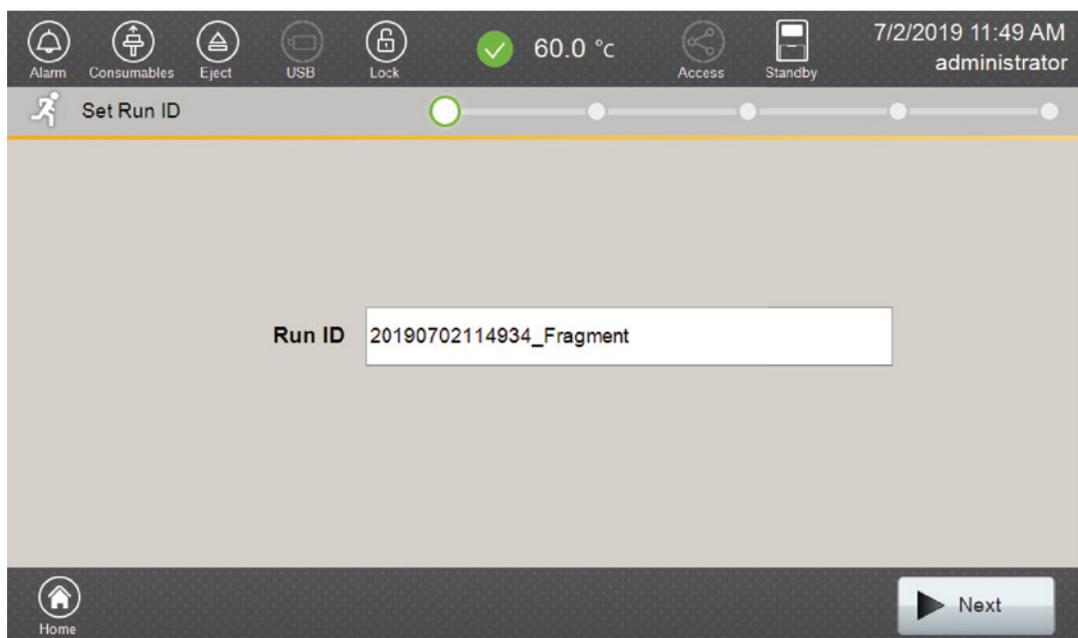

Figure 8. 'Set Run ID' screen.
- Use the default name that includes date, time and “Fragment” or enter a Run ID on the ‘Set Run ID’ screen (Figure 8). Select the **Run ID** box to open the ‘Run ID’ window and a keypad will become active on the touch screen. Alternatively, the Run ID can be entered using a traditional keyboard if one is connected to the Spectrum Compact CE System.